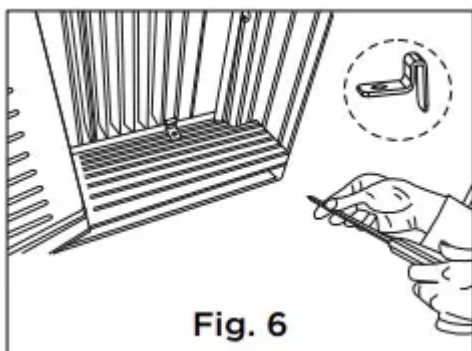

Fig. 6
4. Place the frame lock between the frame extensions and the window sill as shown (Fig. 6). Drive 3/4" (19mm) or 1/2" (12.7mm) locking screws through the frame lock and into the sill.